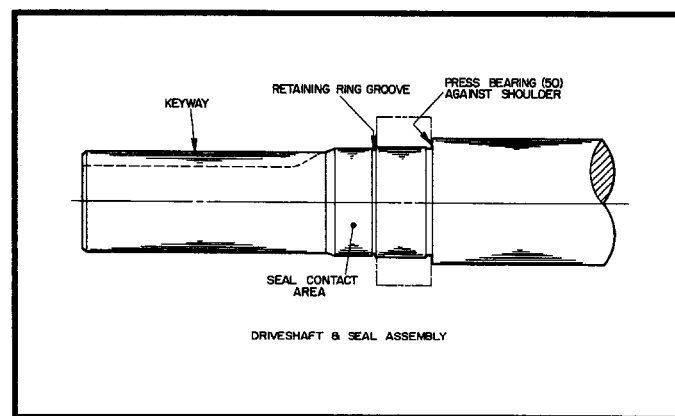

Figure 6. Driveshaft Assembly (509464 sh. 2).
See Figures 6 and 8. If front shaft bearing (50) is being replaced, heat bearing in oil, then press onto driveshaft by pressing on inner race, until snug against shoulder on shaft. Lock in place with retaining ring (49) being careful not to damage "seal contact area" on shaft. Slide driveshaft assembly (48) into front housing (51) until bearing seats in housing bore. It may be necessary to tap lightly on outer bearing race to seat bearing. Install gland o-ring (46) into housing. If driveshaft seal (47) is being replaced, press new seal into driveshaft seal gland (45) until it bottoms-out on gland shoulder. Tape key-way to prevent cutting seal when installing gland. Slide gland onto driveshaft until nose (on gland) contacts outer race of bearing. Secure with screws (44) torqued to 77-87 in. lbs. (8,7-9,8 Nm). Remove tape from key-way, then install driveshaft coupling key (43) onto shaft.
See Figures 6 and 8. If front shaft bearing (50) is being replaced, heat bearing in oil, then press on inner race, forcing bearing onto driveshaft until snug against shoulder on shaft. Lock in place with retaining ring (49), being careful not to damage "seal contact area" on shaft. Slide driveshaft assembly (48) into front housing (51) until bearing seats in housing bore. It may be necessary to tap lightly on outer bearing race to seat bearing. Install gland o'ring (46) into housing. If driveshaft seal (47) is being replaced, press new seal into driveshaft seal gland (45) until it bottoms-out on gland shoulder. Tape key-way to prevent cutting seal when installing gland. Slide gland onto driveshaft until nose on gland contacts outer race of bearing. Secure with screws (44) to 25-30 ft. lbs. (33,9 to 40,8 Nm) on size 250 and 320 and 10-15 ft. lbs. (13,5 to 20 Nm.) on size 170. Remove tape from key-way, then install key (43) onto shaft.